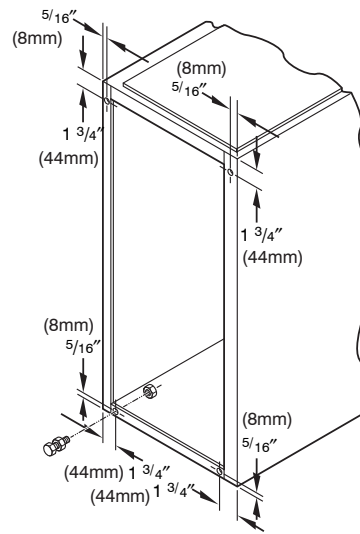

Fig. 20 - Leveling Legs
When furnace is used in upflow position with side inlet(s), leveling legs may be desired. (See Fig. 20.) Install field-supplied, corrosion-resistant 5/16-in. machine bolts and nuts.
1. Position furnace on its back. Locate and drill a 5/16-in. (8 mm) diameter hole in each bottom corner of furnace. (See Fig. 20.) Holes in bottom closure panel may be used as guide locations.